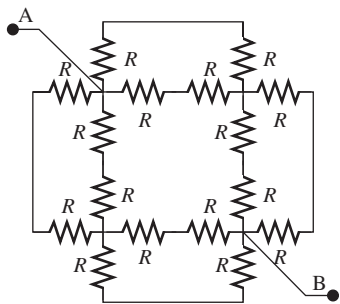

FIGURE P3.9 Circuit for Problem 3.9.
3.9 (H) Find R_{AB} in Figure P3.9: